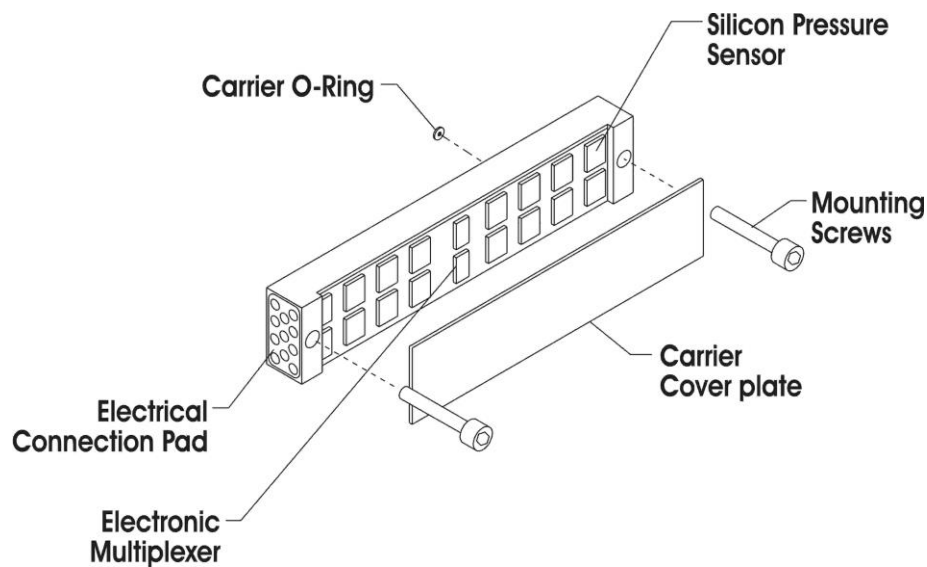

Figure 1-1
The transducer carrier used on ESP scanners consists of 16 piezo-resistive sensors and two (2) multiplexers bonded to a hybrid substrate encapsulated in a rectangular housing. The silicon pressure sensors have a micro-machined diaphragm onto which four (4) piezo-resistors have been diffused. The piezo-resistors are connected in a Wheatstone bridge configuration that generates a voltage output proportional to the pressure input. This configuration exhibits low hysteresis and excellent repeatability. Each sensor has a nominal full scale output of 75 mV for pressure greater than 10 psid and 20 to 75 mV for pressures less than 10 psid. The carrier design (see Figure 1-1) incorporates O-ring pressure seals for measurement, calibration, and reference inputs, and is mounted to the scanner with two (2) Allen-head screws. This design allows for easy O-ring replacement without the need for special skills or tools. (See **Repair and Maintenance**)